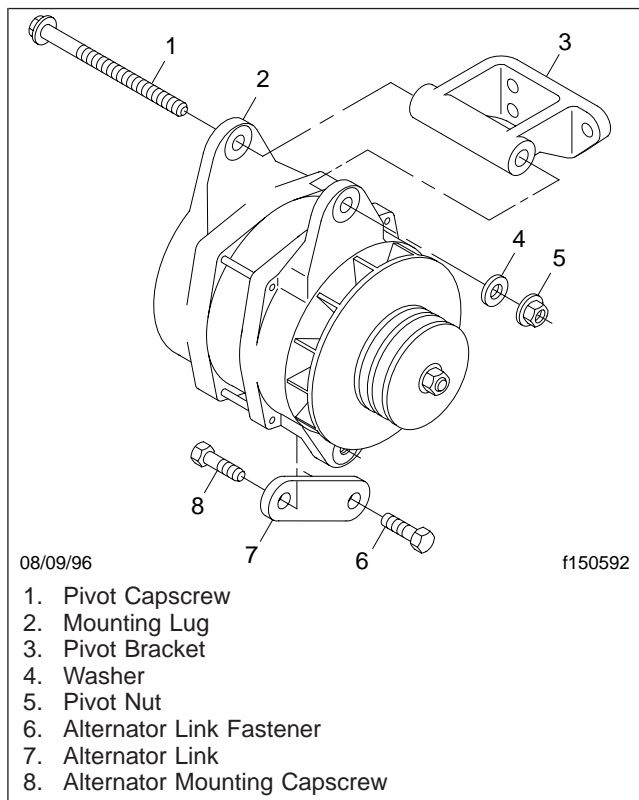

Fig. 3, Mounting Hardware
4. Remove the alternator. See Fig. 3.
1. Install the alternator on the pivot bracket. See Fig. 3.